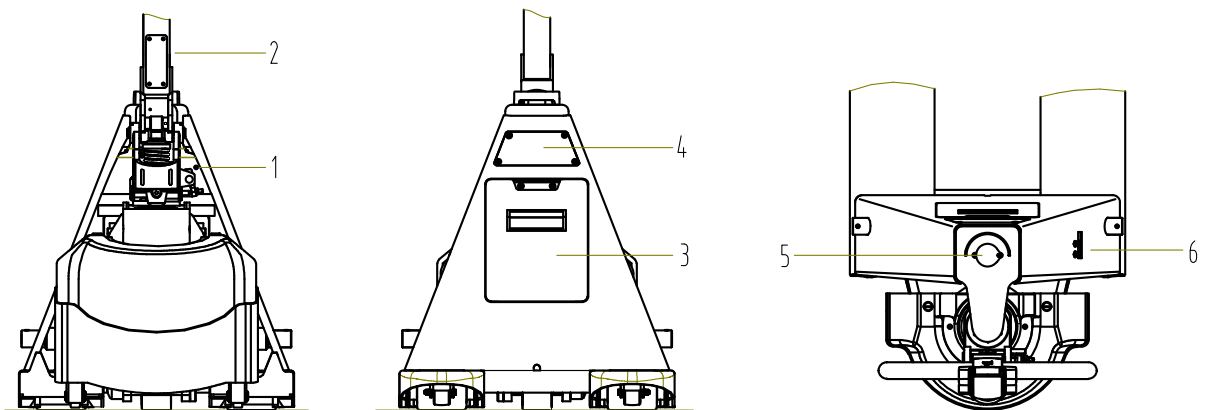

Figure 7
5.1 Figure 7, Truck structure, 1. fault indicator; 2. handle assembly; 3. battery; 4. controller assembly; 5. emergency stop button; 6. charge port.